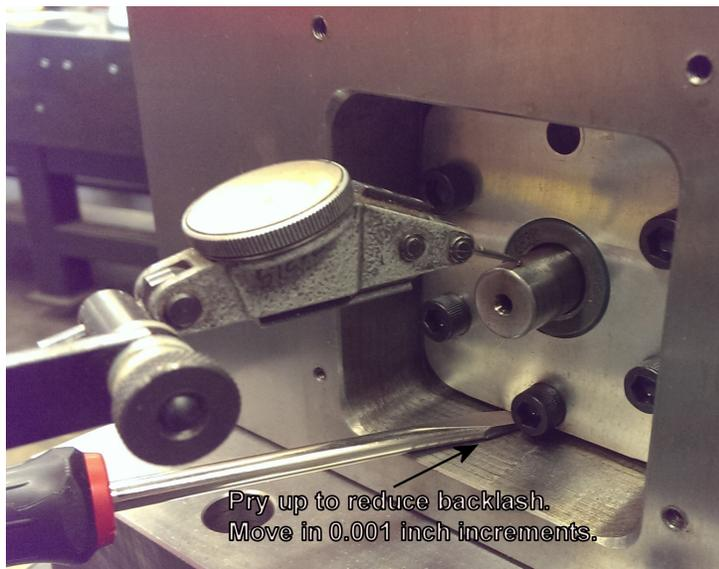

Figure 2: Pry up on bearing mount to reduce backlash, move in 0.001" increments, tighten, retest backlash at rotary table face.
4. Place indicator on the shaft to monitor movement, figure 2..